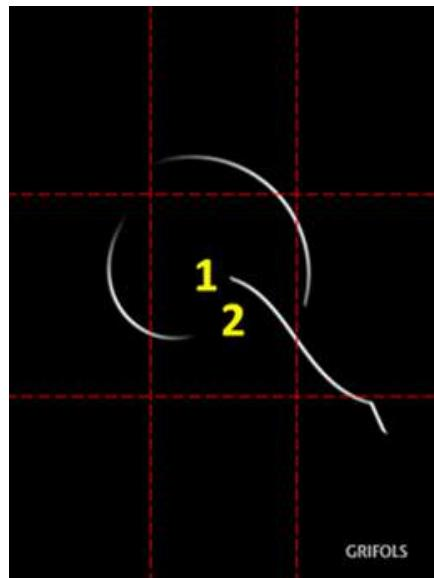

Figure 16.1. Black Window with Big Q Logo
- When the black screen with the big **Q** logo appears (Figure 16.1), double-click on the center of the screen.
- When the black screen with the big Q logo appears (Figure 16.1), double-click on the center of the screen.